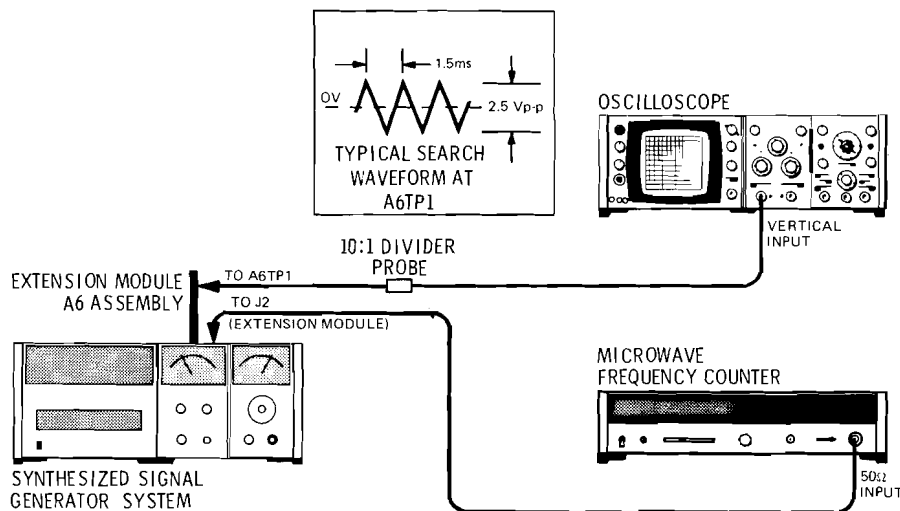

Figure 5-6. YIG Loop Phase Detector Adjustment Test Setup
6. Connect oscilloscope probe to A6TP1. Adjust oscilloscope to display a triangular waveform of approximately 2.5 volts peak-to-peak with a period of approximately 1.5 milliseconds. If waveform is not present, rotate potentiometer A7R17 ccw, and then, cw as necessary to turn search waveform generator (located on A6) on. When search waveform generator is turned on, oscilloscope should display typical waveform illustrated in Figure 5-6.
7. Adjust potentiometer A7R17 until search waveform generator is just triggered to produce waveform illustrated in Figure 5-6.